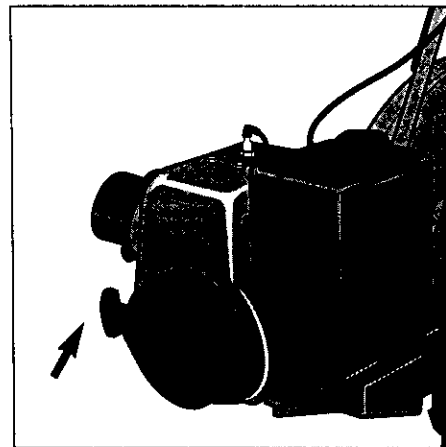

Figure 3-12: Pull Recoil Start Rope out rapidly to start engine.
6. Use your right hand to slowly pull the recoil starter rope (Figure 3-12) until you feel resistance. Let it rewind. Then rapidly pull the starter rope outward. (First check for any obstacles behind you.) Repeat until the engine starts.